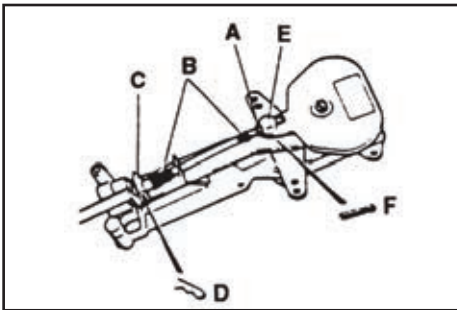
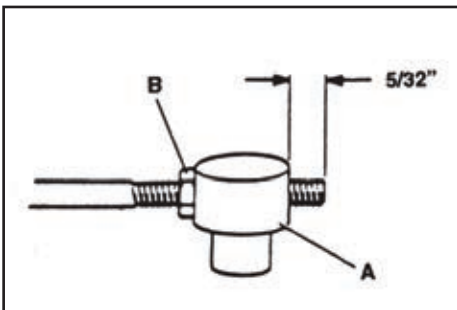

Figure 2.
Figure 3.
STEP 1. Remove the nut (Figure 2 item A) and both rubber seals (Figure 2 item B). Push the throttle cable through the retainer (Figure 2 item C). Apply a light, even coating of a good waterproof marine grease to the terminal. Refit both rubber seals and nut.
STEP 2. Secure the cable with the hitch pin (Figure 2 item D). Note that the hitch pin must be fitted with the flat side upwards.
STEP 3. Thread the pivot (Figure 3, item A) onto the cable terminal until the threaded portion of the terminal protrudes 5/32" (5 threads). Secure the pivot by tightening the nut (Figure 3, item B). Connect the pivot to the throttle lever (Figure 2 item E) and secure it with a cotter pin (Figure 2 item F).
STEP 2. Thread the pivot (Figure 3, item A) onto the cable terminal until the threaded portion of the terminal protrudes 5/32" (5 threads). Secure the pivot by tightening the nut (Figure 3, item B).
* See Figure 3, item A.